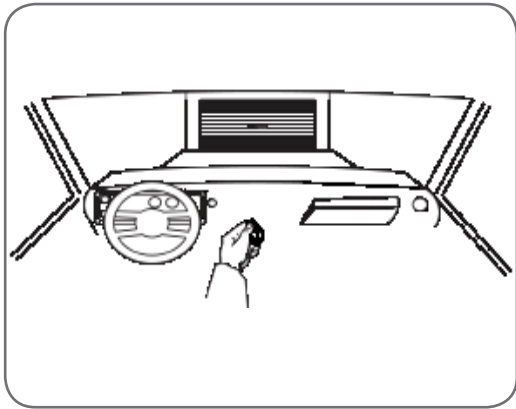

Fig.33
- If you are in a vehicle you should aim the transmitter through your windscreen (**Fig.33**).